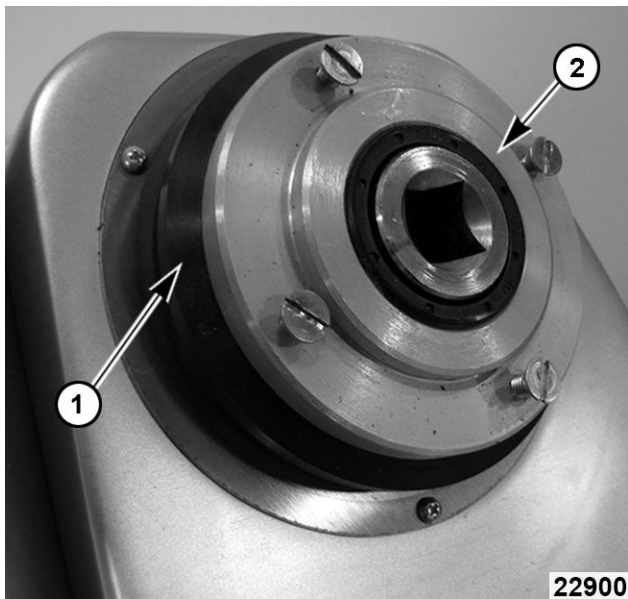

Fig. 28
10. Remove the knife pulley assembly (2, Fig. 28) and rubber seal.